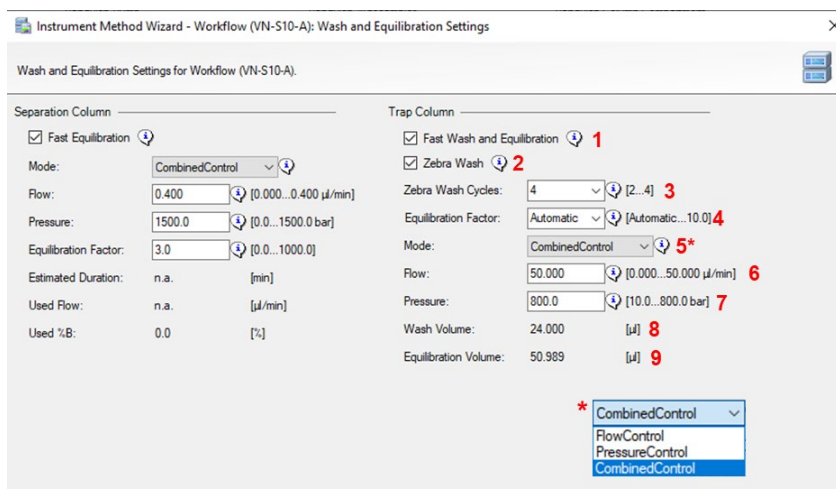

Figure 38: IMW Page 6 - Workflow: Wash and Equilibration Settings (2)
Table 10:Key to Figure 38 IMW page 6 - Wash and Equilibration Settings (2)